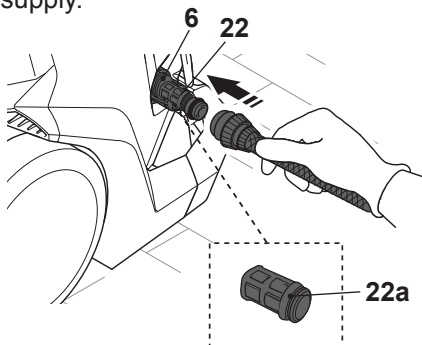

Fig. 14
1. Attach the water inlet hose adaptor (22) on the water inlet (6) (Fig. 14).
2. Attach a suitable water hose (not included) onto the water supply and then the other end onto the water inlet hose adaptor (22).